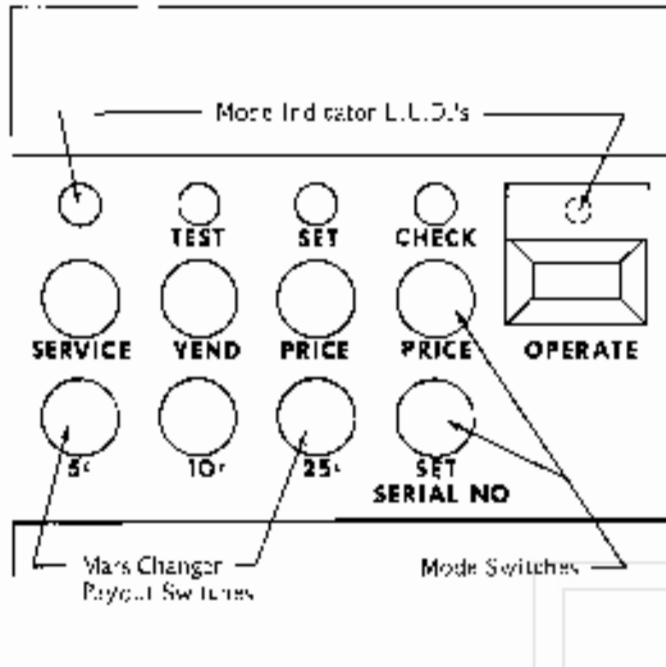
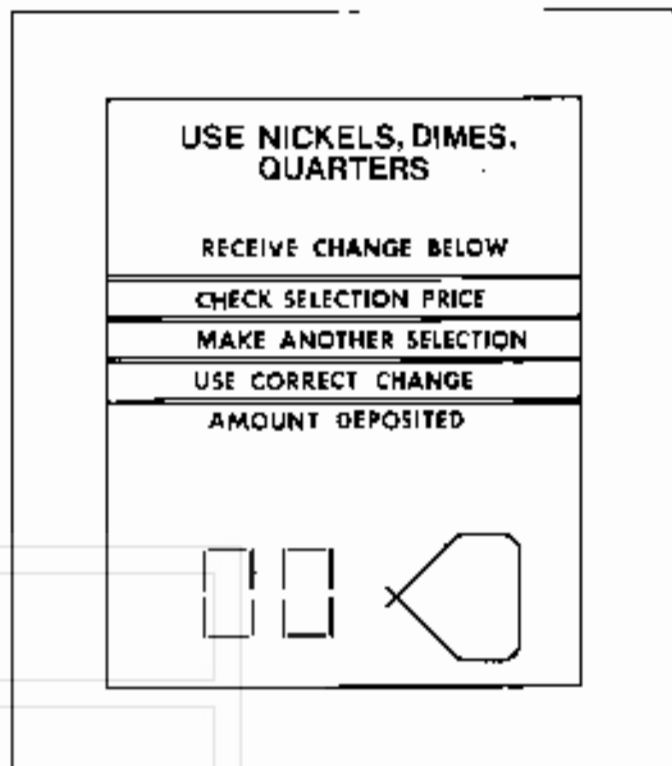
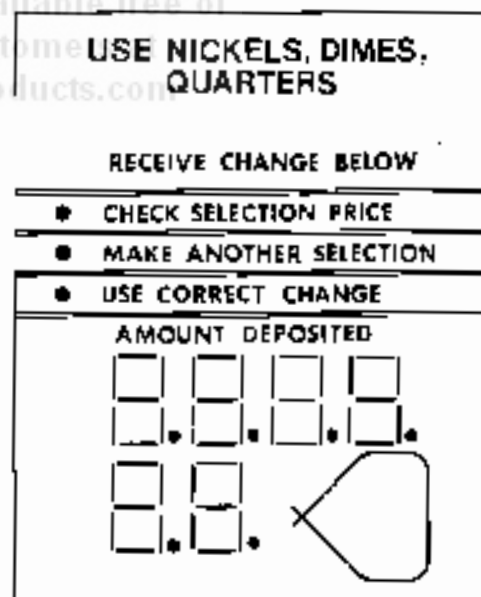

Figure 10. MODE SWITCHES.
Figure 16.
Figure 20.
The mode switch box is located on the door above the changer. It allows for control of the following machine functions: Operate mode, set price mode, check price mode, test vend mode, service mode and set serial number mode (see Figure 10).
- A. Press the "set price" button on the mode switch box (Figure 10). The L.E.D. above the set price button will light and the product code display located on the selection panel will be explained later. Any selection programmed at this reading will be removed from the operating program. This would be used when shelves are moved or the number of selections changed to remove those selections not present in the machine from the program.
- A. Press the "check price" button on the mode switch box (Figure 10). The I.E.D. above the check price button will light and the selection panel display will be blank.
- A. Press the "set price" button on the mode switch box (Figure 10). The L.E.D. above the set price button will light and the display located on the selection panel will show "00" (Figure 16). This two digit display is the product code and can be incremented up by pressing button 13 and down by pressing button 14. Increments are one. Any selection programmed at this reading will be removed from the operating program. This would be used when shelves are moved or the number of selections changed to remove those selections not present in the machine from the program.
- A. Press the "check price" button on the mode switch box (Figure 10). The L.E.D. above the check price button will light and the selection panel display will be blank.
- A. Press the "test vend" button on the mode switch box (Figure 10). The L.E.D. above the test vend button will light and the display located on the selection panel will be blank. The machine is now ready to operate exactly under the same conditions as in the operate mode, so you will have to use money for the testing. After all servicing and testing has been made return the machine to the operate mode. The machine is now ready for normal customer usage.
- A. Press the "service" button located on the mode switch box (Figure 10). The L.E.D. above the service mode button will light and those out of panel L.E.D.'s will all light (Figure 20). This tells the service person if all L.E.D.'s are in operating condition and that the Control Board is operating.
- C. If a non-functioning motor exists, record the selection on paper and repeat step B. Continue this procedure until all non-functioning selections have been displayed, recorded and the selection panel display reads all 8's (Figure 20).